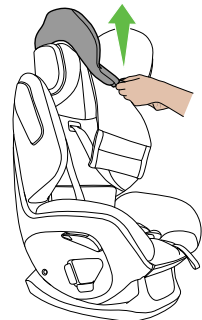

Figure 4
Step 4. Once the press studs are released, pull the headrest fabrics away from the bottom upwards (Figure 4).